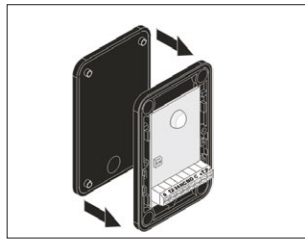

Fig. 5
- 5 - Assemble the gasket and the photocells ( Fig. 5);